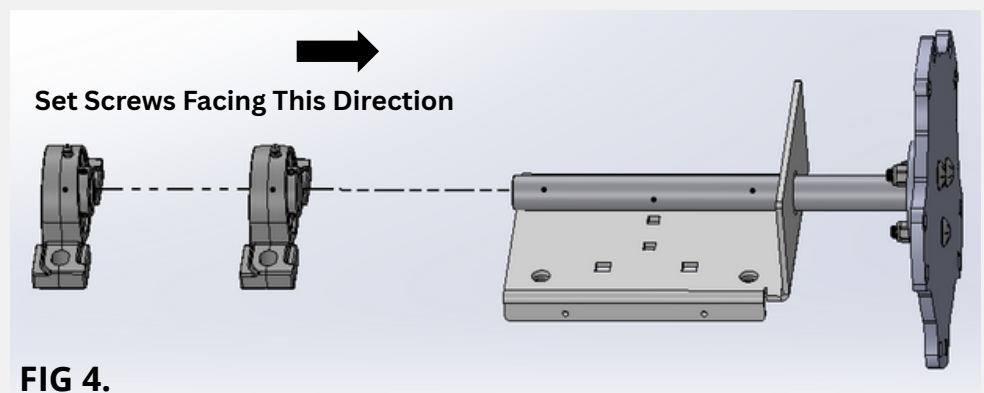

FIG 4.
7. Slide Bearing Shaft through the Center hole on the Bearing Plate as shown in Fig. 4
9. Slide Bearings onto the Bearing Shaft, making sure the set screws are facing the front of the bracket, as shown in Fig. 4